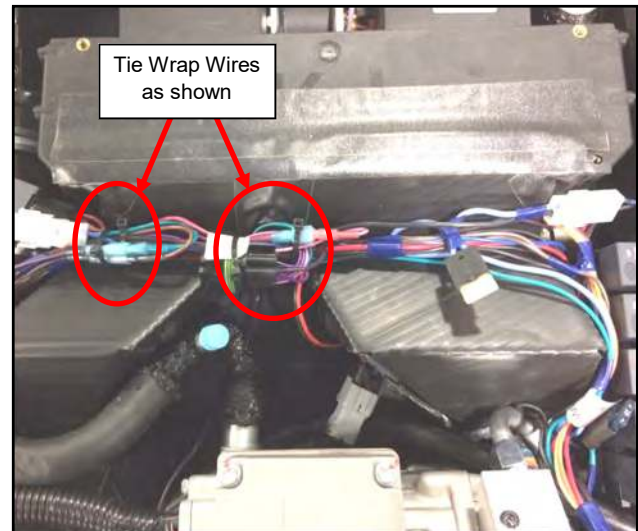

Fig. 1.10 (Tie Wrap Harnesses together)
- 1.10** Bundle the wires in the tray formed by the ductwork as shown in fig. 1.10. and use the supplied tie wraps to hold the harnesses together.